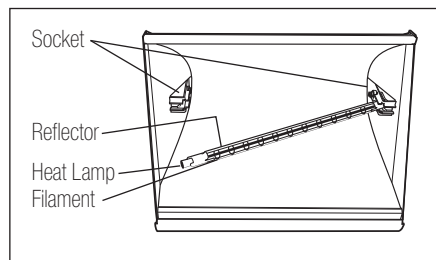

Fig.14
- The heat lamp is half coated with a white reflector. When you grasp the heat lamp, face the back of the reflector to the ceiling (so you can see the heat lamp's filament). Not doing this will reduce performance. (Fig 14)
6. Fit one end of the heat lamp into a socket and gently push it away from the other socket. (Fig 14)